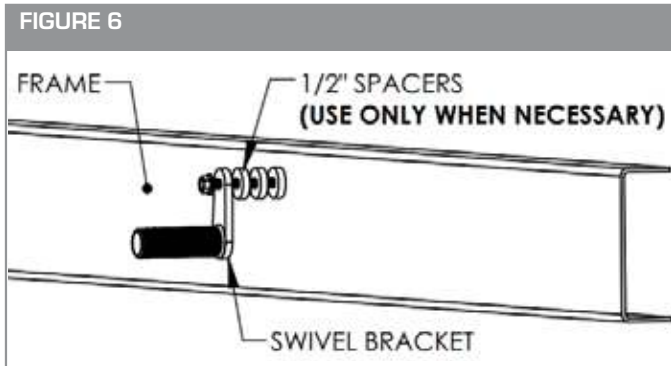

FIGURE 7
- Once the brackets are in position with the fender, tighten the 5/8" x 4-1/2" bolt that goes through the (PB5015) swivel bracket to attach the swivel securely to the frame. (See Figure 7)